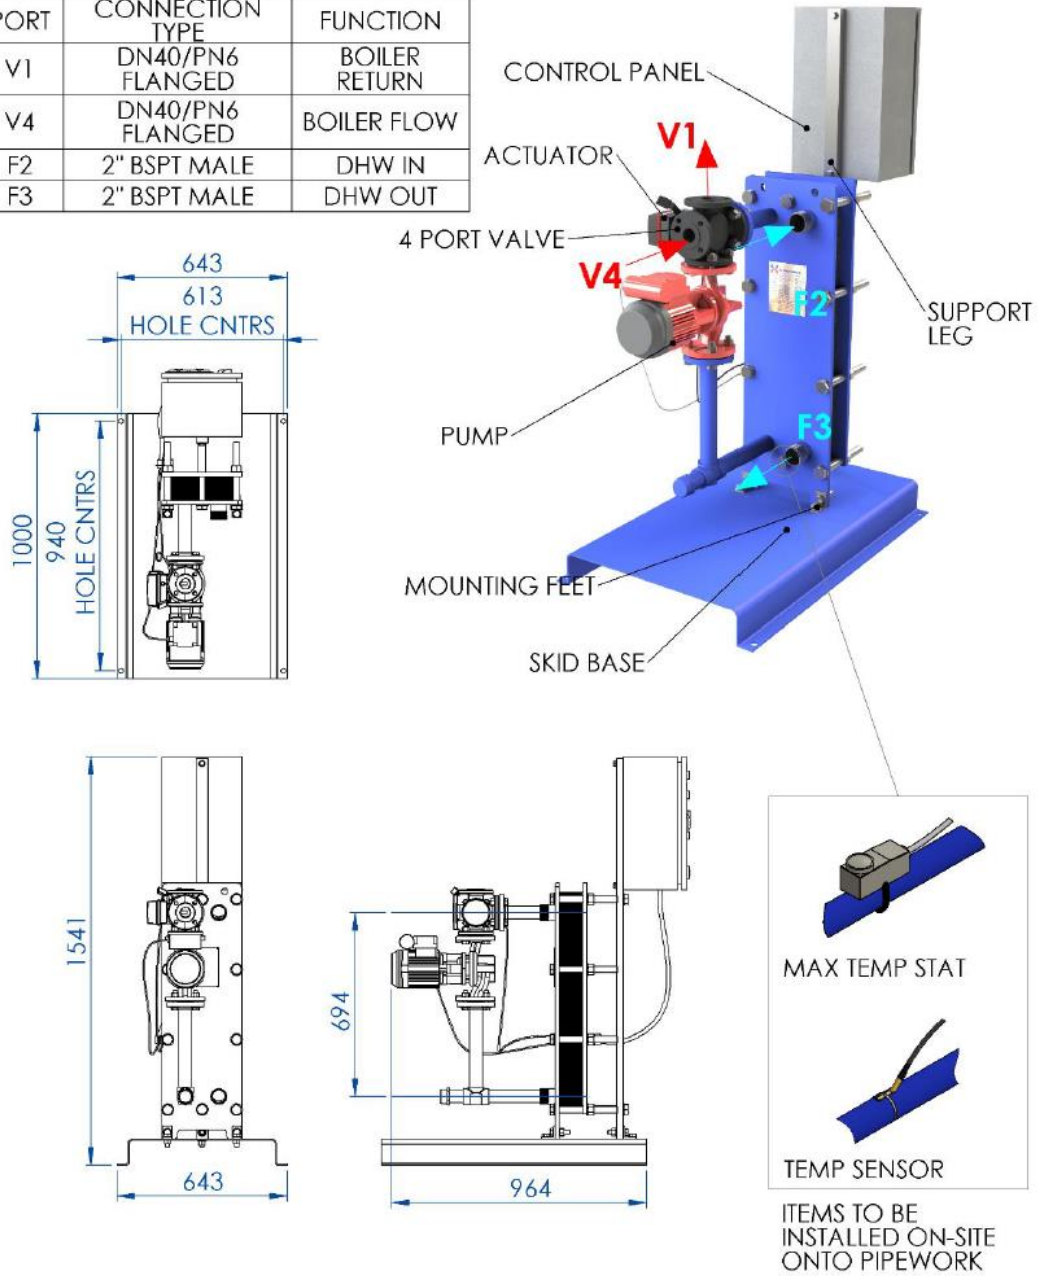

FIGURE 2: PIPEWORK CONNECTIONS AND FUNCTIONS LOK14 RANGE
9.1 INSTANTANEOUS WATER HEATING: See figure 2